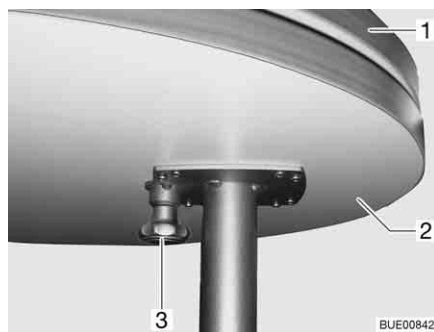

Fig. 99 Fixed table
- Pull the knob (Fig. 99,3) of the lock down and swing out the table-top extension (Fig. 99,2).
- Swing the table-top extension (Fig. 99,2) under the table-top (Fig. 99,1) until the lock latches in place audibly.